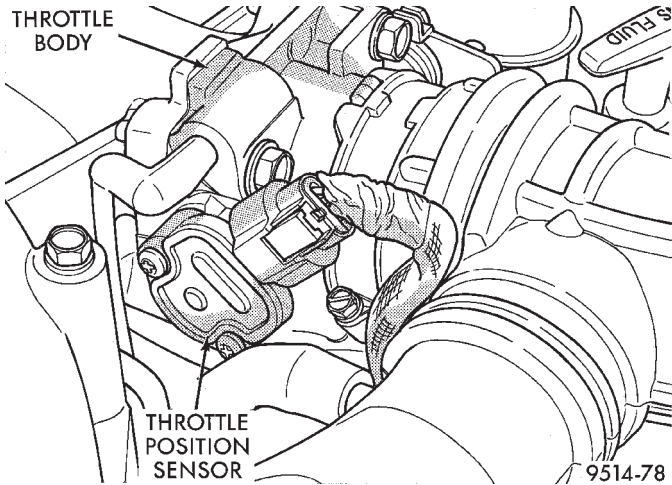
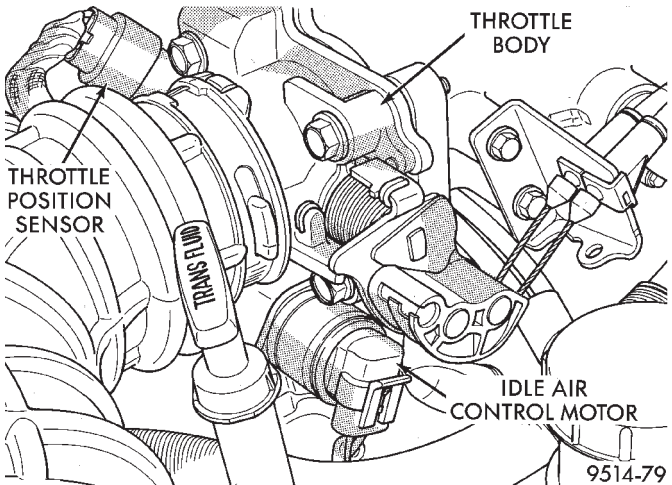

Fig. 30 Throttle Position Sensor
Fig. 31 Idle Air Control Motor
(10) Unplug TPS and idle air control motor connectors (Fig. 30) and (Fig. 31).